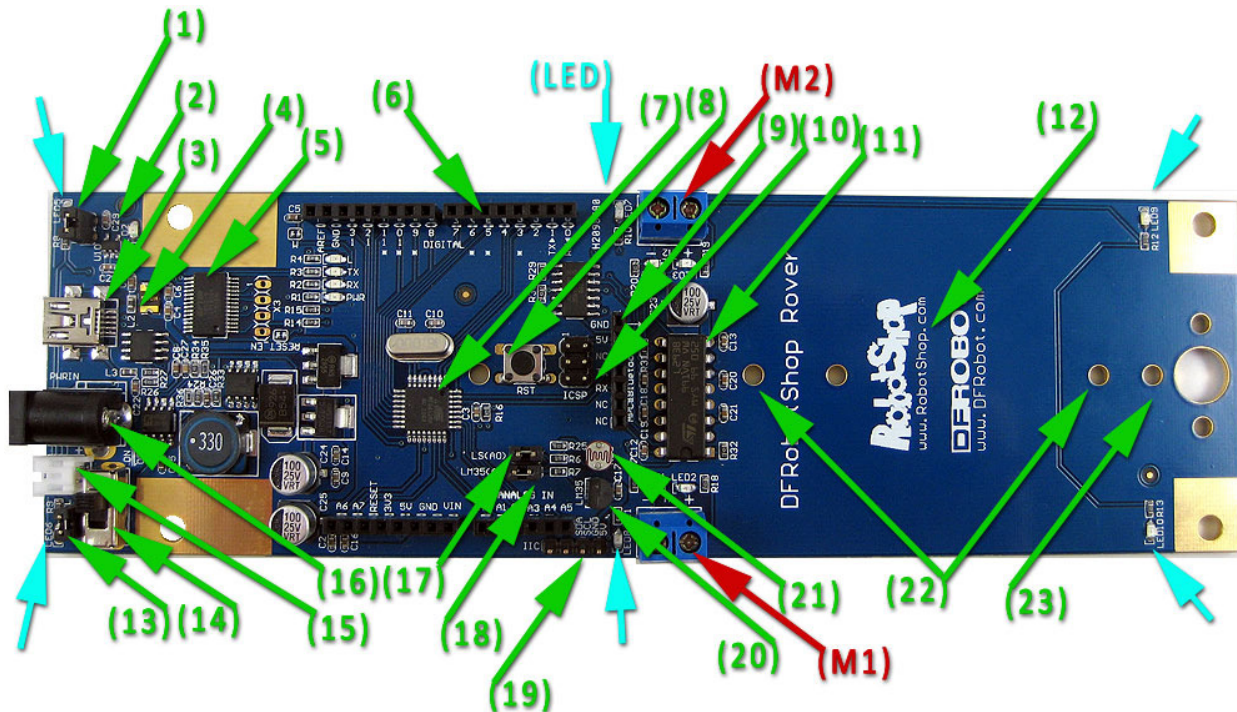

Figure 1: DFRobotShop Rover V1.5 Features
- (17) Light sensor jumper (connects light sensor to analog pin 0)
- (18) Temperature sensor jumper (connects temperature sensor to analog pin 1)
- (19) I2C connector
- (20) LM35 temperature sensor⁵
- (21) Light sensor⁴
- (22) 4xAA battery holder holes
- (23) Universal connection point
**Important note: jumper (1) in figure 1 should only be in place when using a LiPo battery connected to (15), otherwise remove.*